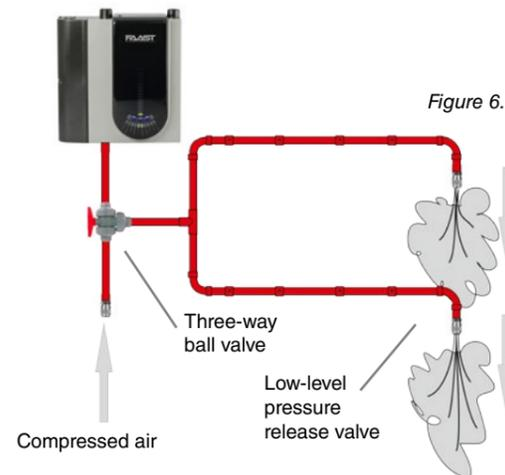

Figure 6.
**Please note:** In the most particulate rich environments like waste plants, the non-return valves should be positioned at a low level (see Figure 6 below), so they can easily be accessed for cleaning if dirt prevents the valve from closing.